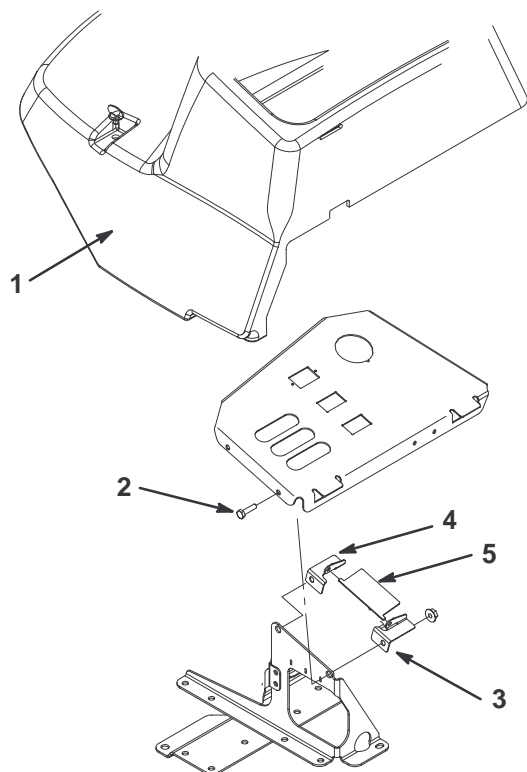

Figure 2
1. Rotate latches and remove control panel cover (Fig. 2).
2. Under front of control panel, locate ends of capscrews securing control panel to frame (Fig. 2).
3. Insert left hand latch bracket up thru lift lever slot and onto capscrew. Loosely secure with 1/4–20 flange nut (Fig. 2).
4. Insert right hand latch bracket up thru lift lever slot and onto capscrew. Loosely secure with 1/4–20 flange nut (Fig. 2).
5. On top of control panel, insert each end tab of lift latch into holes in latch brackets (Fig. 2). Tighten flange nuts.